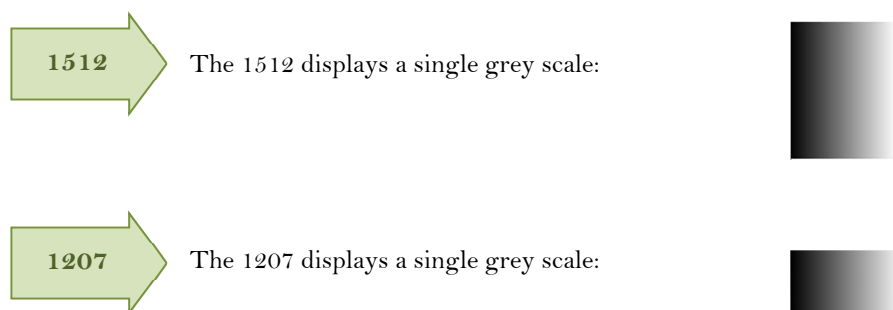

Figure 3: Test patterns for each Dexela CMOS detector.
8. Click on **Test Mode** then click **Snap**. A quad grey-scale pattern should appear, as in Figure 3. This indicates that the detector unit is communicating correctly with the PC.